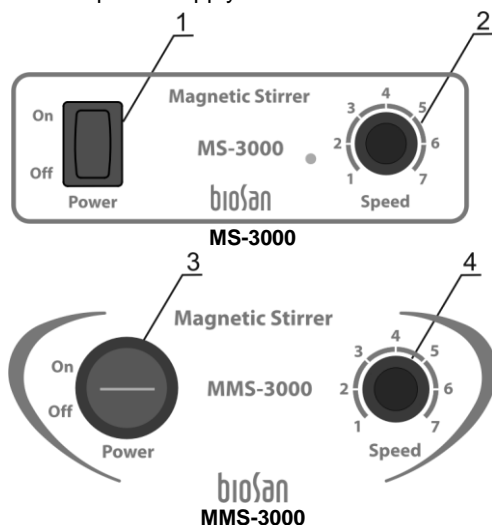

Fig. 2. Control panel
- 4.3. Turn the **Power** switch (Fig. 2/1 or 2/3) into the position **I** (On).
- 4.4. Set the required speed using the **Speed** knob (fig. 2/2 or 2/4). Increase the speed smoothly.